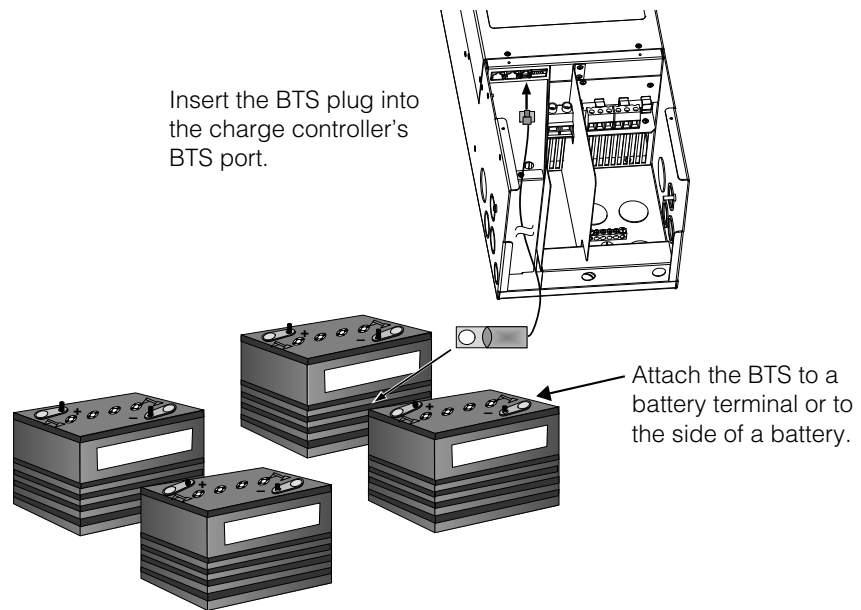

Figure 2-15 Installing the BTS
4. Pass the other end of the BTS cable through the knockout and strain relief bushing on the charge controller, and then insert the BTS plug into the BTS RJ-11 port. See Figure 2-15.